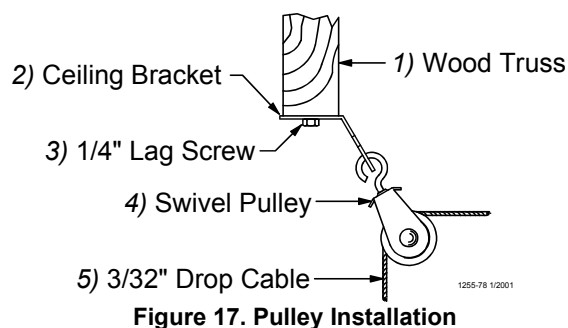

Figure 17. Pulley Installation
6. After securing the Ceiling Hook to the truss, slide the hook of a Swivel Pulley into the slot, as shown in **Figure 17. Pulley Installation** on page 12.